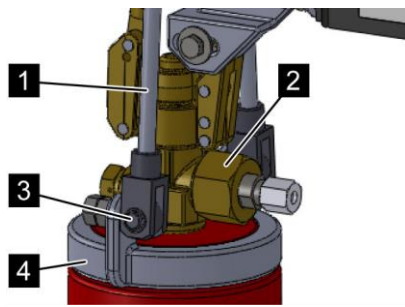

Fig. 71: Screw in the adapter
➔ Fit retaining rods (Fig. 71/1) onto the ring bolts from above and fasten to the suspension element (Fig. 71/3) with snap bolts (Fig. 71/4).
10. ➔ Screw the adapter (Fig. 71/2) with seal into the control connection of the valve.